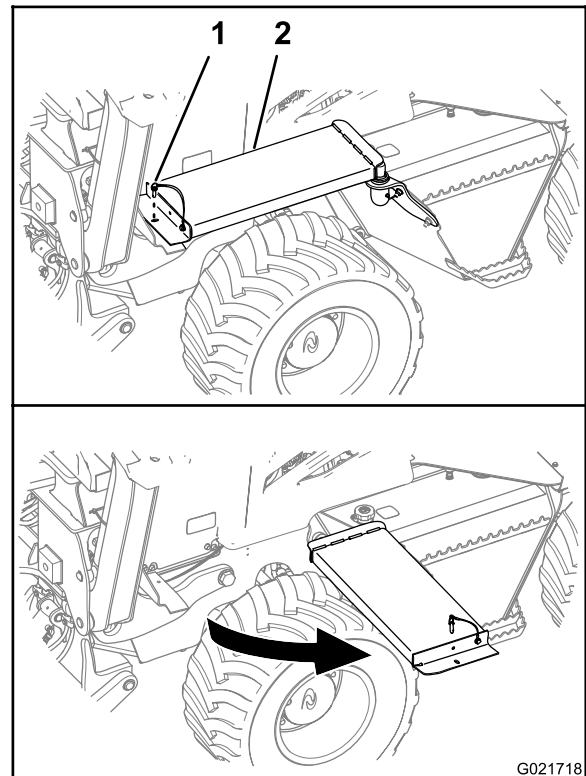

Figure 34
- A. At the left side of the machine, remove the retaining pin from the front end of the walkway (Figure 34).
- B. Pivot the walkway away from the machine as shown in Figure 34.
- A. Rotate the front end of the walkway to its original position (Figure 34).
- B. Align the hole in the walkway with the hole in the walkway support bracket (Figure 34).